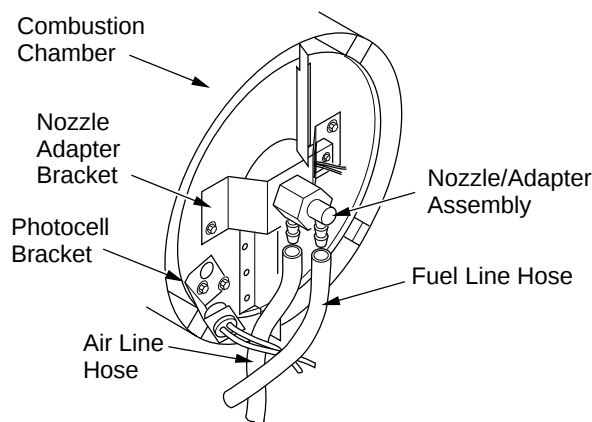
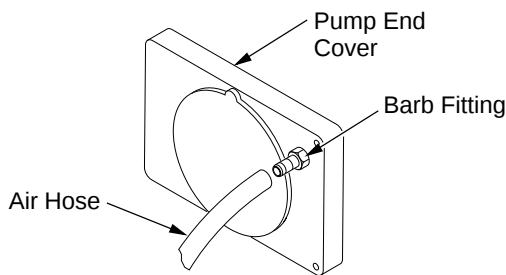

Figure 17 - Removing Air and Fuel Line Hoses (BY35CEH and BY70CEH Models Only)
Figure 22 - Air Hose to Barb Fitting
14. Replace photocell in photocell bracket. Route wires as shown in either Figure 17, 18, or 19, page 11.
3. Remove fuel and air line hoses from nozzle assembly (see Figure 17, 18 or 19).
4. Inspect fuel and air line hoses for cracks and/or holes. If fuel line hose is damaged, disconnect from nozzle adapter (see Figure 17, 18, or 19, page 11) and from fuel filter (see page 8). If air line hose is damaged, disconnect from nozzle adapter (see Figure 17, 18, or 19, page 11) and from barb fitting on pump end cover (see Figure 22).
5. Install new air and/or fuel line. Attach one end of air line hose to barb fitting on pump end cover (see Figure 22) and the other end to nozzle adapter (see Figure 17, 18, or 19, page 11). Attach one end of fuel line hose to fuel filter (see page 8) and the other end to nozzle adapter (see Figure 17, 18, or 19, page 11). For BY35CEH and BY70CEH model heaters, route air and fuel lines approximately as shown in Figure 17, page 11.